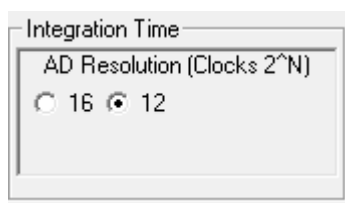

Figure 8. Integration Time
- **Integration Time** - This corresponds to the resolution of the internal ADC, the number of bits allocated to representing the Count. Higher resolution (more bits) requires a large number of counts and needs a longer acquisition (integration) time, see Figure 8.